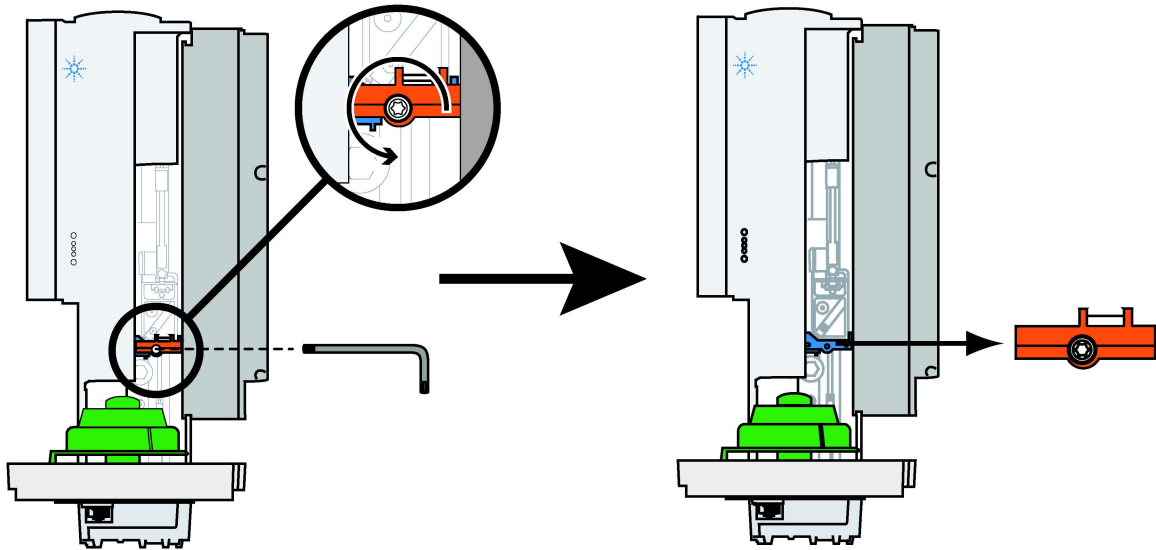

Figure 6 Remove the orange shipping clamp
- 2 Using a T-10 Torx driver, completely loosen the T-10 Torx captive screw and remove the orange shipping clamp from the syringe carriage (Figure 6).